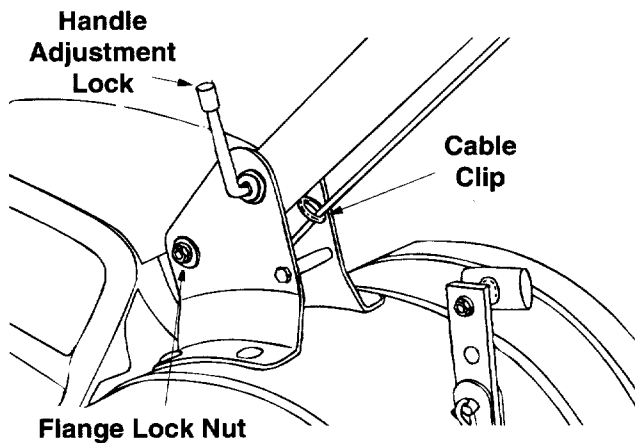
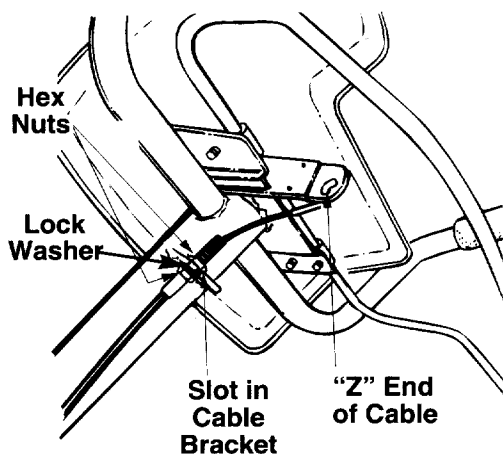

Figure 10
Figure 11 Viewed beneath handle panel.
1. Route the clutch cable underneath the handle and through the cable clip. Be careful not to bend or kink the cable. Refer to Figure 10. Remove one hex nut from the threaded casing on the end of the cable. See Figure 11.
3. Pull the cable upwards to obtain slack, and, from right to left, hook the "Z" end of the cable into the bracket on the clutch control (beneath the handle panel) as shown in Figure 11. Tighten the nut against the cable bracket.
**If the belt turns with the unit in neutral**, adjust by moving the hex nut below the cable bracket **down** a few turns. See Figure 11. Tighten the upper hex nut against the bracket.